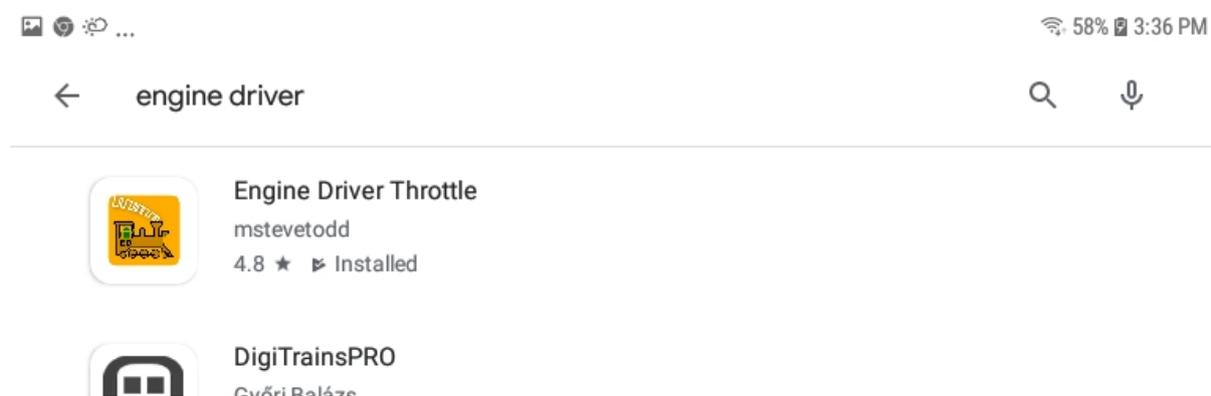

Figure 15 Searching for the Engine Driver app in Google Play Store
- (1) On your Android phone or tablet, make sure you are connected to the internet and run the Google Play Store app from the home screen:
- (2) Search for Engine Driver by M. Steve Todd, download and install it. To do this:
- b. Type “Engine Driver” into the text box and click the Search button, make sure the correct app “Engine Driver Throttle” displays as in Figure 15,
- c. Tap on the “Engine Driver Throttle app” (Figure 15). The app detail page displays.